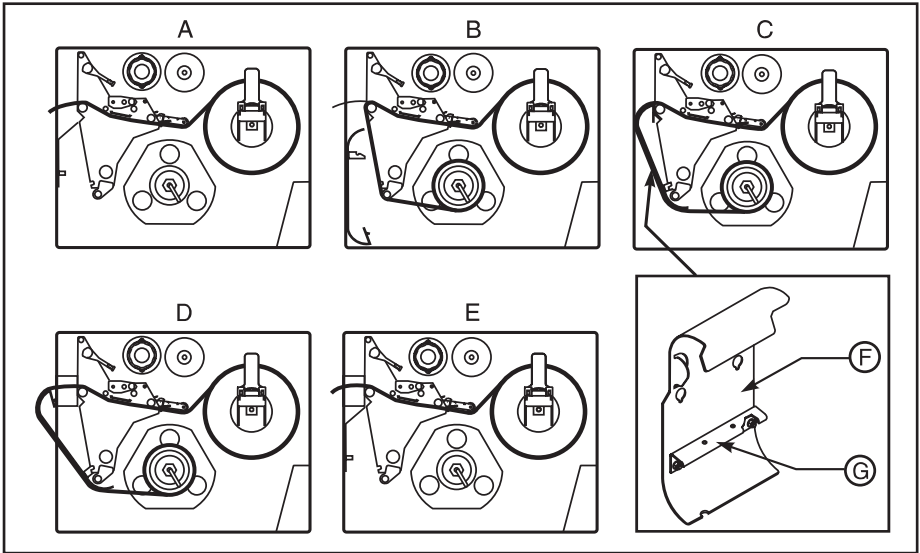

Figure 6
Mode (Figure 6-A)
Peel-Off Mode (Figure 6-B)
Rewind Mode (Figure 6-C and 6-D)
1. Remove the Media Rewind Plate (Figure 6-F) from its storage location in front of the print mechanism inside the media compartment.
2. Invert the Rewind Plate so that the lip on the attached Hook Plate (Figure 6-G) points down.
4. (Only for printers with Cutter/Rewind Option, Figure 6-D.) Insert the two small tabs on the Rewind Plate into the corresponding slots in the Cutter Support Bracket. The Rewind Plate should “spring” into the proper position.
Cutter Mode (Figure 6-E)
- Load media according to the directions above for Tear-Off Mode, except feed the media through the cutter module as shown in Figure 6-E.